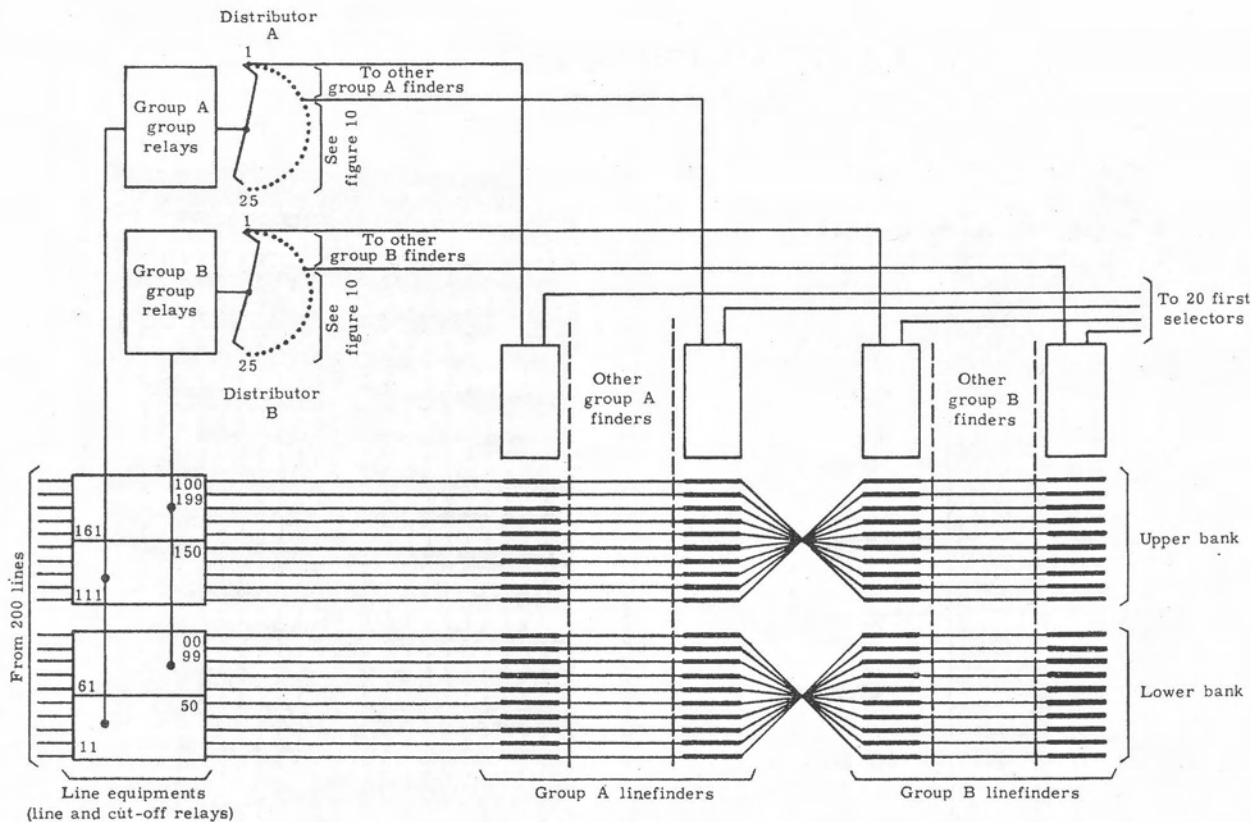
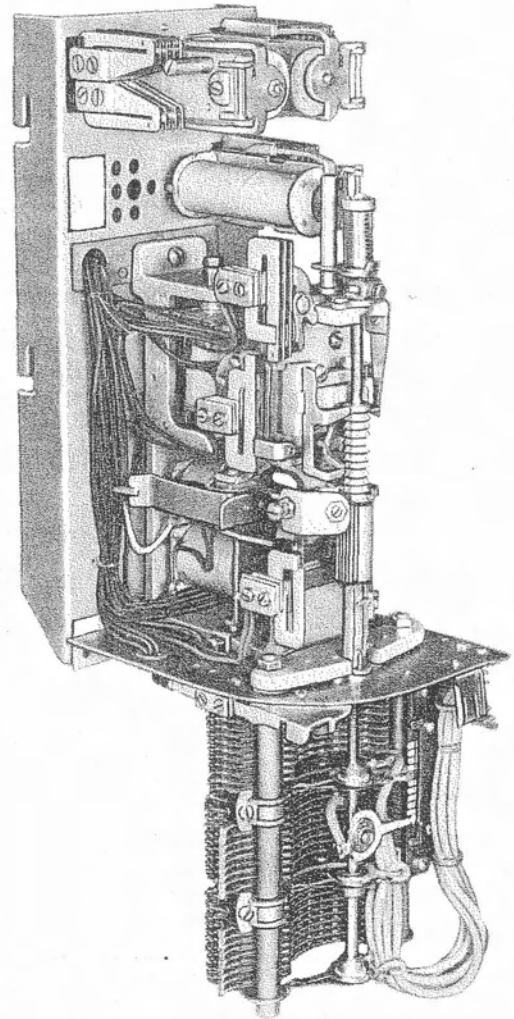
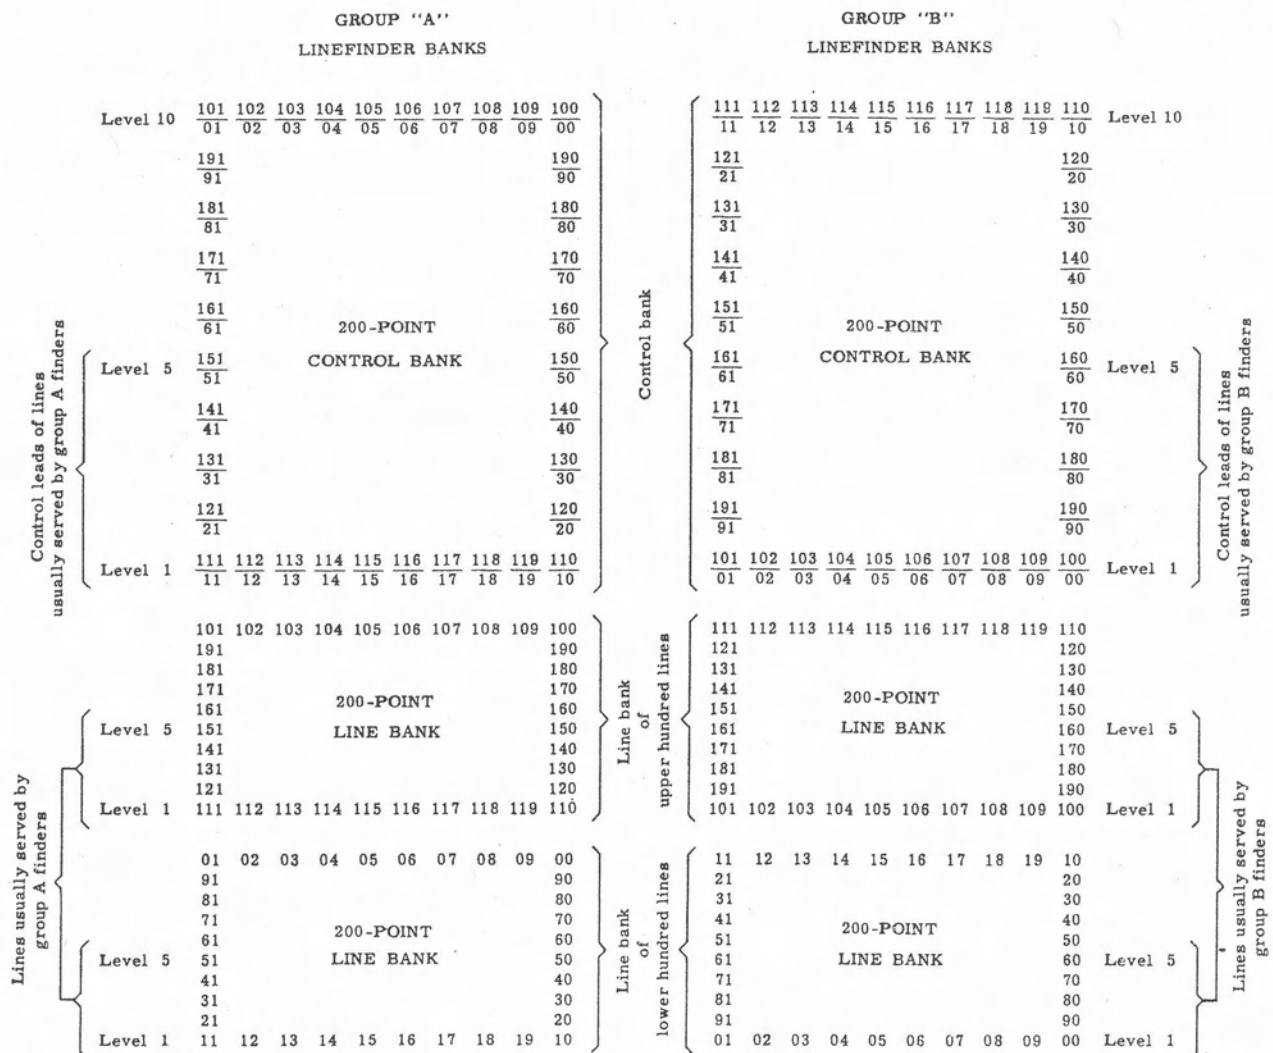
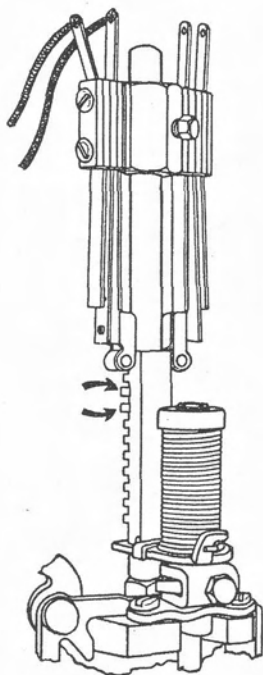

Figure 3. Two-hundred-line linefinders with bank reversal for preferential hunting.
Figure 11. Two-hundred-line linefinder switch.
Figure 12. Bank numbering for 200-line linefinders.
Figure 14. Normal-post springs.
**1.5 Preferential hunting.** Any calling line can be reached with a maximum of twenty steps of the linefinder, ten steps up and ten steps across. The average hunting time is reduced by reversing the bank multiple (figure 3). Then all lines are in the lower five levels of some linefinders' banks and can be reached in a maximum of fifteen steps, five up and ten across. The finders having each hundred's lower-numbered line equipments connected to the banks' lower five levels are called group A finders. The finders having each hundred's higher-numbered line equipments connected to the banks'
lower five levels are called group B finders. (Figures 3 and 12). With this arrangement, two distributors and two relay groups are necessary. A lower-numbered line equipment activates group A relays which start a preselected group A linefinder. A higher-numbered line equipment activates group B relays and a group B linefinder. This is known as "preferential hunting". A group A and a group B linefinder can be hunting simultaneously. If a low-numbered line equipment operates and all group A linefinders are busy, it will activate the group B relays which will cause a group B linefinder to connect to the line. Group A linefinders will likewise assume the group B linefinders' load when all group B linefinders are busy. This feature is valuable not only to give faster service but also permits routing the switches and group relays without denying service to any subscriber.
**3.4 Linefinders.** The linefinder (figure 11) connects the calling line to the associated idle selector. Every line is connected to the contact banks of all the linefinders on its shelf. Each line has a + wire, a - wire, and, within the central office, a control wire. Figure 12 shows their location on the group A and group B linefinder banks. (In the control bank each number represents a metallic contact; each horizontal line, an insulator.) The line contacts for line equipments 00 to 99 are in the lower line bank and the line contacts for line equipments 100 to 199 are in the upper line bank. The control contacts of the 200 lines are in the control bank. Those lines appearing on the lower levels of group A linefinder banks appear on the upper levels of group B linefinder banks (figures 3 and 12) because of the reverse multiplying between the groups. The linefinder's vertical wiper (figure 11) touches a different vertical contact after each vertical step. The bottom vertical contact keeps the vertical-bank wiper properly aligned when at its normal position.
A typical 200-line linefinder consists of a Strowger switch and three relays mounted on a base plate (figure 11). A metal cover (not shown) protects the assembly from dust and physical injury. The Strowger switch mounts, in addition to those contacts already mentioned, vertical-off-normal contacts (which release mechanically when the shaft and wipers are lifted from their normal position), rotary cam contacts (operating when the shaft and wipers take the eleventh rotary step), and normal-post springs (operating when the linefinder shaft and wipers rise to a level whose lug (figure 14) has been bent\*, §6.1, §6.2, and §6.3). The pattern of bent lugs